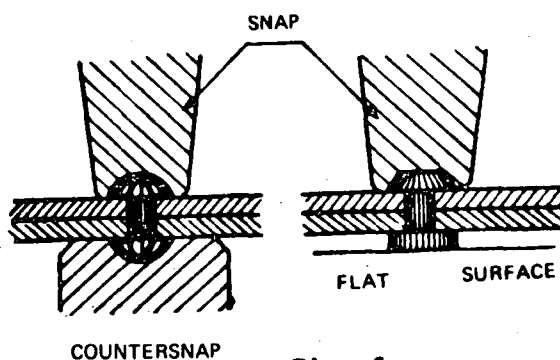

Fig. 6
- f) Finish with the aid of a snap and hammer (Fig. 6).